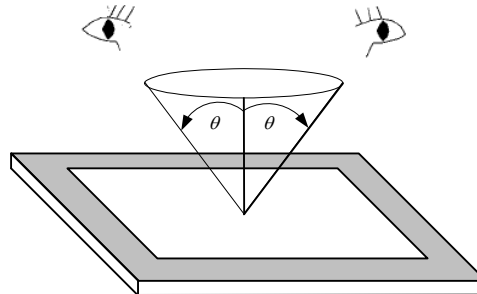

Fig. 12.1
- The viewing zone is defined with angle  $\theta$  shown in Fig. 12.1 The inspection should be performed within 45° when display is shut down. The inspection should be performed within 5° when display is power on.